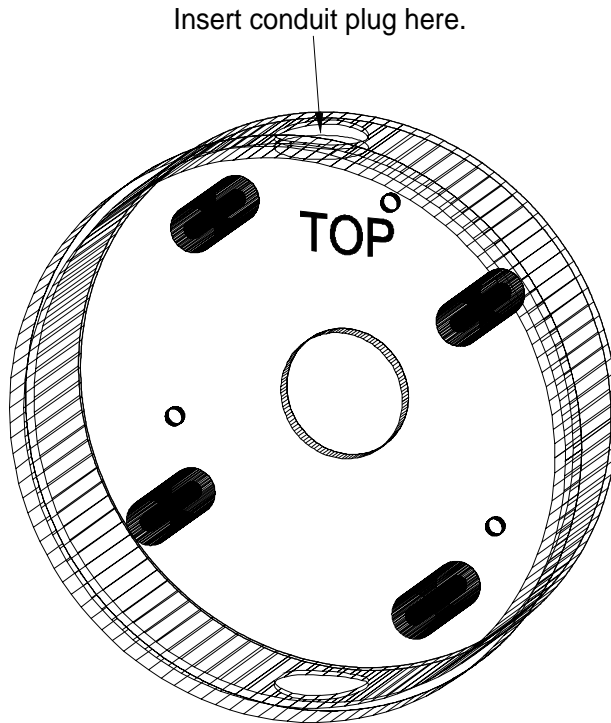

Figure 13 Horn Back Box
6. The weatherproof back box has two threaded conduit holes. Screw the provided conduit plug into the hole near the word "TOP" inside the weatherproof back box (figure 13).